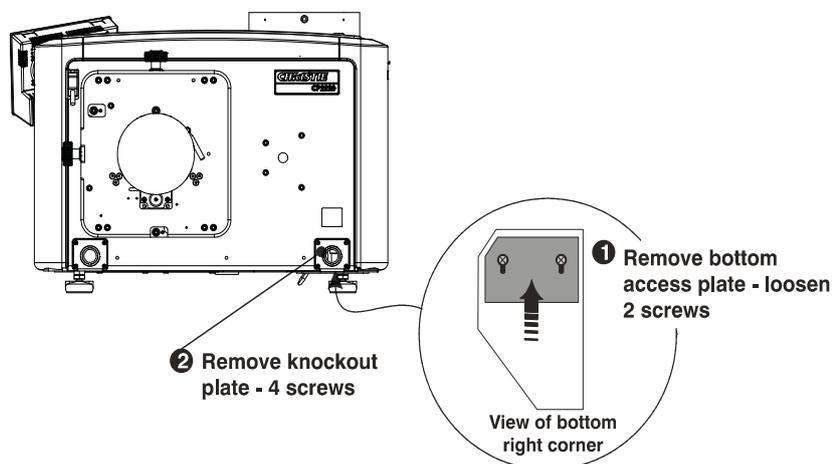

Figure 2-10
1. A small electrical access plate is located under the projector in the front right corner. Loosen the two screws and slide the plate forward to expose the terminal block underneath. See **Figure 2-10**.
1. A small electrical access plate is located under the projector in the front right corner. Loosen the two screws and slide the plate forward to expose the terminal block underneath. **Figure 2-10**